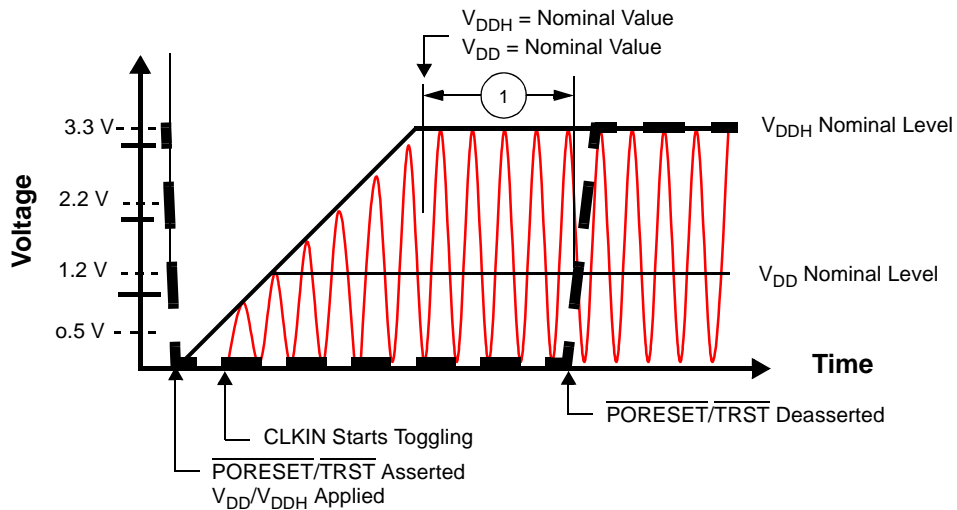
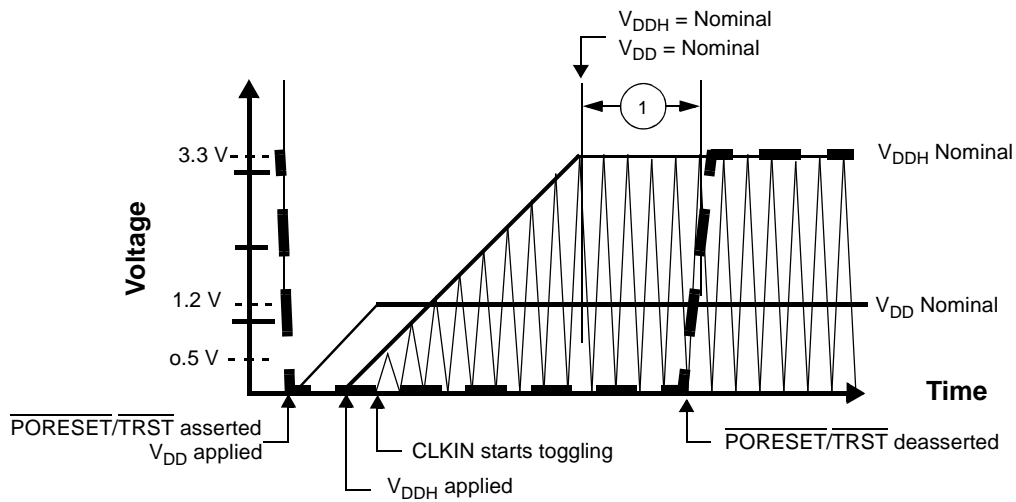

Figure 6. Start-Up Sequence: V_{DD} and V_{DDH} Raised Together
Figure 7. Start-Up Sequence: V_{DD} Raised Before V_{DDH} with CLKIN Started with V_{DDH}
- If possible, bring up the V_{DD} and V_{DDH} levels together. For designs with separate power supplies, bring up the V_{DD} levels and then the V_{DDH} levels (see **Figure 7**).
- CLKIN should start toggling at least 16 cycles (starting after V_{DDH} reaches its nominal level) before $\overline{PORESET}$ deassertion to guarantee correct device operation (see **Figure 6** and **Figure 7**).
The following figures show acceptable start-up sequence examples. **Figure 6** shows a sequence in which V_{DD} and V_{DDH} are raised together. **Figure 7** shows a sequence in which V_{DDH} is raised after V_{DD} and CLKIN begins to toggle as V_{DDH} rises.